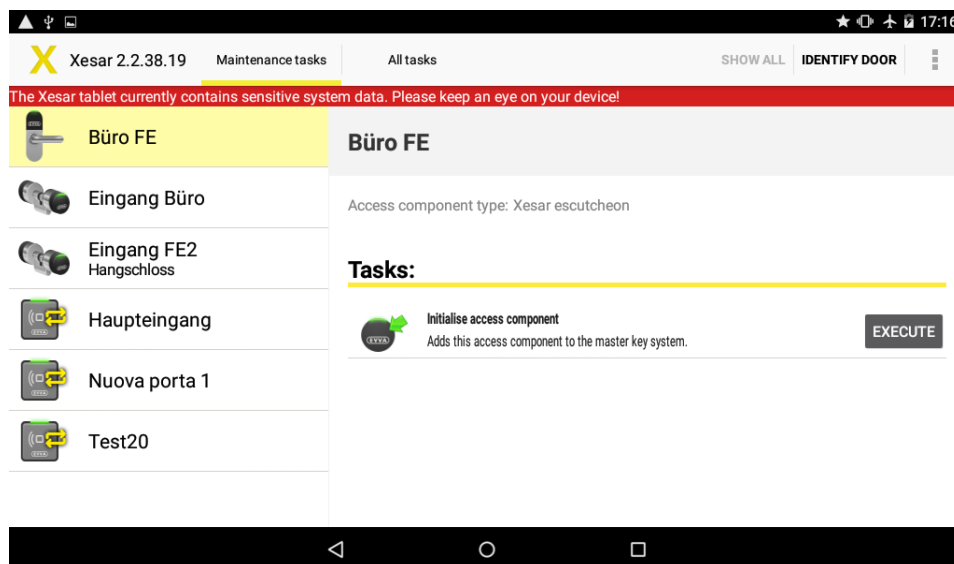

Figure 146: Xesar tablet — initialising Xesar access components
- Select the correct Xesar access component and the desired task you would like to run (Figure 146: Xesar tablet — initialising Xesar access components) from the maintenance task list on the Xesar tablet.